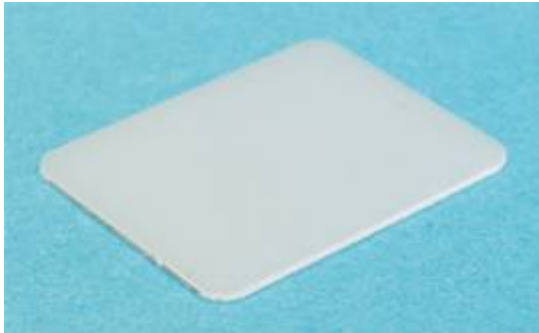

Fig. 2-61
- As a substrate it is recommended to use the standard polycrystalline sapphire substrate (Fig. 2-61) sized 24x19x0.5 mm;